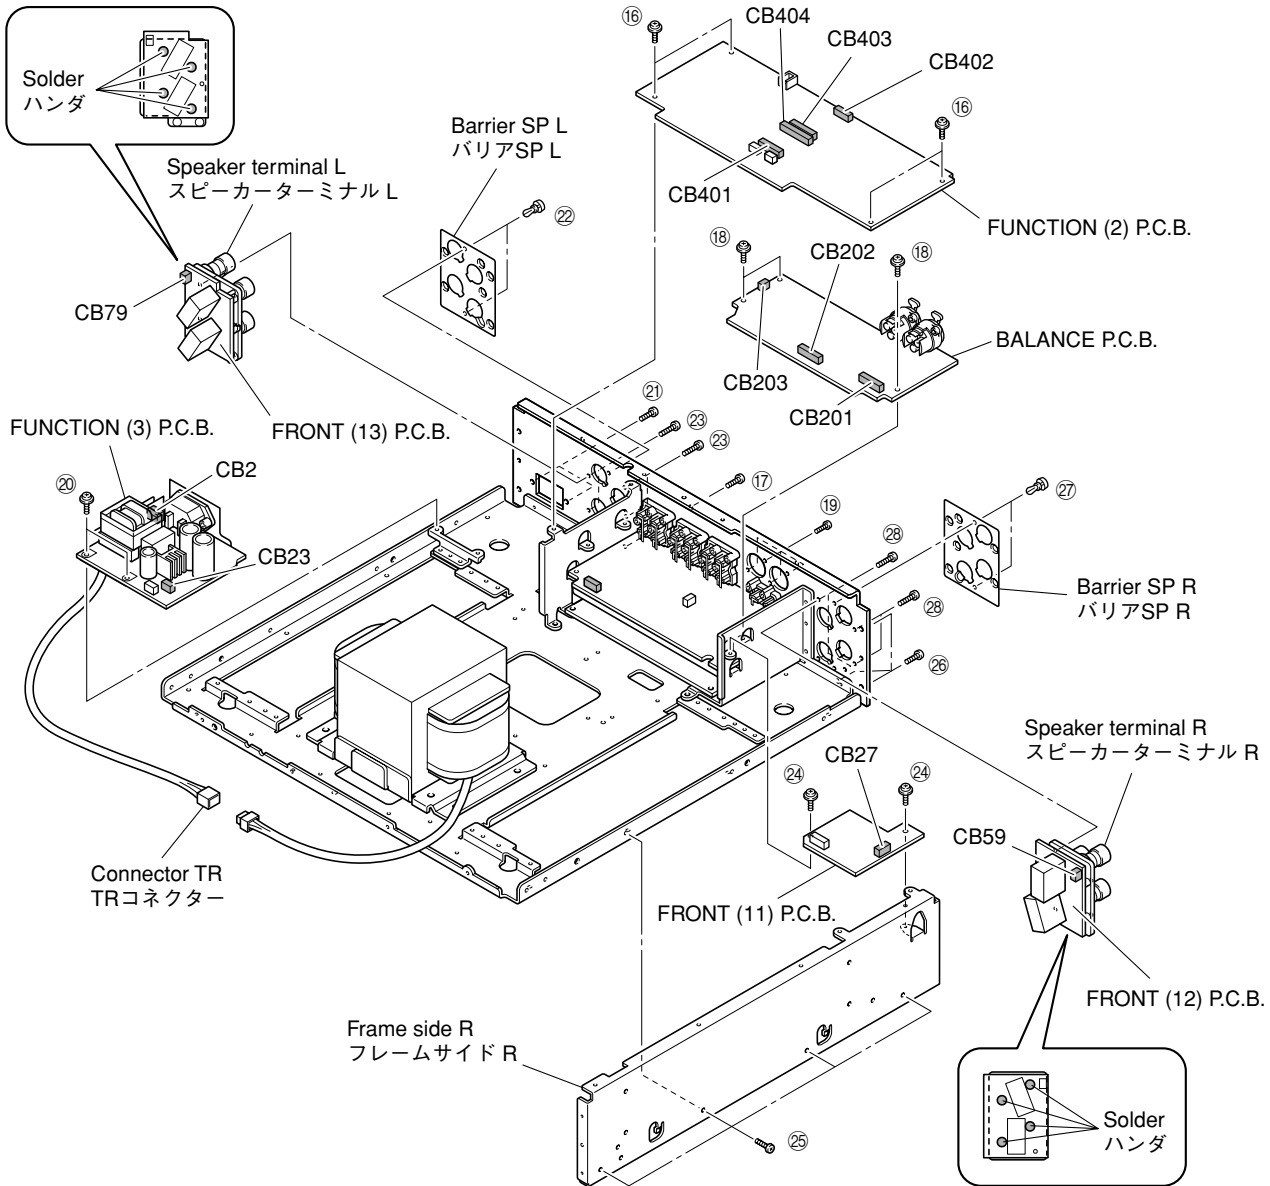

Fig. 8
7. Removal of FUNCITON (2) P.C.B.
- a. Remove 4 screws (16) and a screw (17). (Fig. 8)
- b. Remove CB401-404. (Fig. 8)
- c. Remove the connector TR. (Fig. 8)
- e. Remove FUNCTION (2) P.C.B.. (Fig. 8)
7. FUNCTION (2) P.C.B.の外し方
- a. ⑬のネジ4本、⑭のネジ1本を外します。(Fig. 8)
- b. CB401-404を外します。(Fig. 8)
- c. TRコネクタを外します。(Fig. 8)
- e. FUNCTION(2)P.C.B.を取り外します。(Fig. 8)
- a. Remove 3 screws (18) and 4 screws (19). (Fig. 8)
- b. Remove CB59 and CB201-203. (Fig. 8)
- c. Remove BALANCE P.C.B.. (Fig. 8)
- a. Remove 2 screws (20) and 2 screws (21). (Fig. 8)
- b. Remove CB2, CB23 and CB79. (Fig. 8)
- c. Remove FUNCTION (3) P.C.B.. (Fig. 8)
- d. Remove 2 push rivets (22) and then remove the barrier SP L. (Fig. 8)
- e. Remove 5 screws (23). (Fig. 8)
- f. Remove the speaker terminal L together with the P.C.B.. (Fig. 8)
- g. Unsolder the P.C.B. to separate the speaker terminal L. (Fig. 8)
- h. Remove 2 screws (24). (Fig. 8)
- i. Remove CB27. (Fig. 8)
- j. Remove FUNCTION (11) P.C.B.. (Fig. 8)
- k. Remove 4 screws (25) and 3 screws (26). (Fig. 8)
- l. Remove frame side R. (Fig. 8)
- m. Remove 2 push rivets (27) and then remove the barrier SP R. (Fig. 8)
- n. Remove 5 screws (28). (Fig. 8)
- o. Remove the speaker terminal R together with the P.C.B.. (Fig. 8)
- p. Unsolder the P.C.B. to separate the speaker terminal R. (Fig. 8)
- a. 18のネジ3本、19のネジ4本を外します。(Fig. 8)